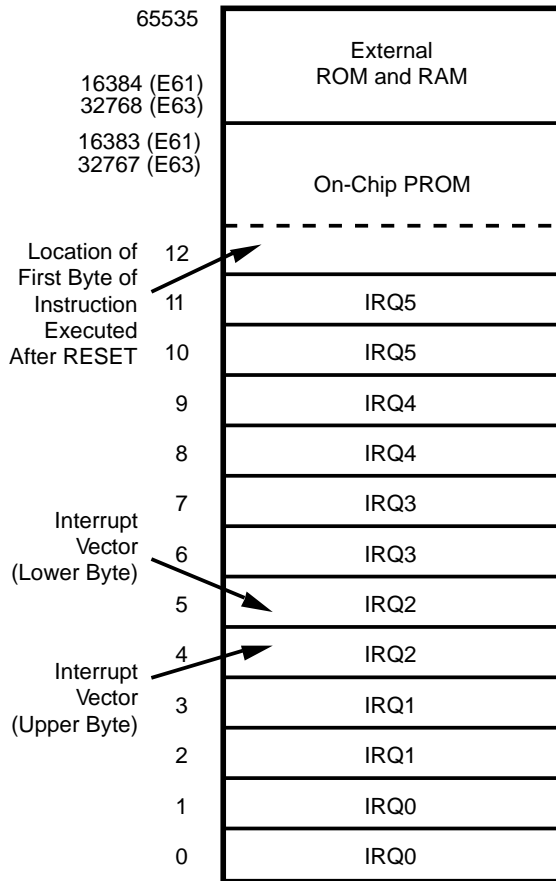

Figure 11. Program Memory Configuration
**Program Memory.** The Z86E61/E63 can address 48 Kbytes (E61) or 32 Kbytes (E63) of external program memory (Figure 11). The first 12 bytes of program memory are reserved for the interrupt vectors. These locations contain six 16-bit vectors that correspond to the six available interrupts. For EPROM mode, byte 13 to byte